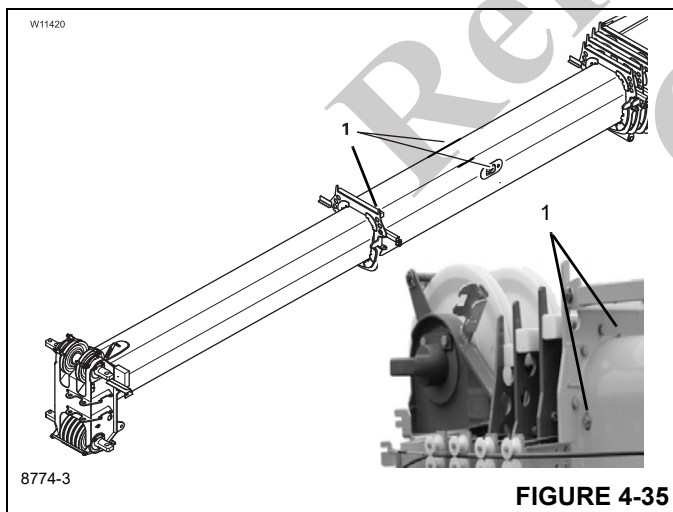

FIGURE 4-35
- Apply Loctite 243 and tighten the bolts (1, Figure 4-35) by hand until the washer is within 0.5mm of the boom. Check periodically to ensure bolts remain snug and washer turns freely.